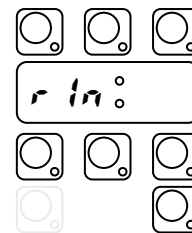

Fig. 3.4
- After settled the duration press CYCLE\_INFINITE key to **store value**. The display shows the next parameter (Fig.3.4) and the corresponding value (Fig.3.5);